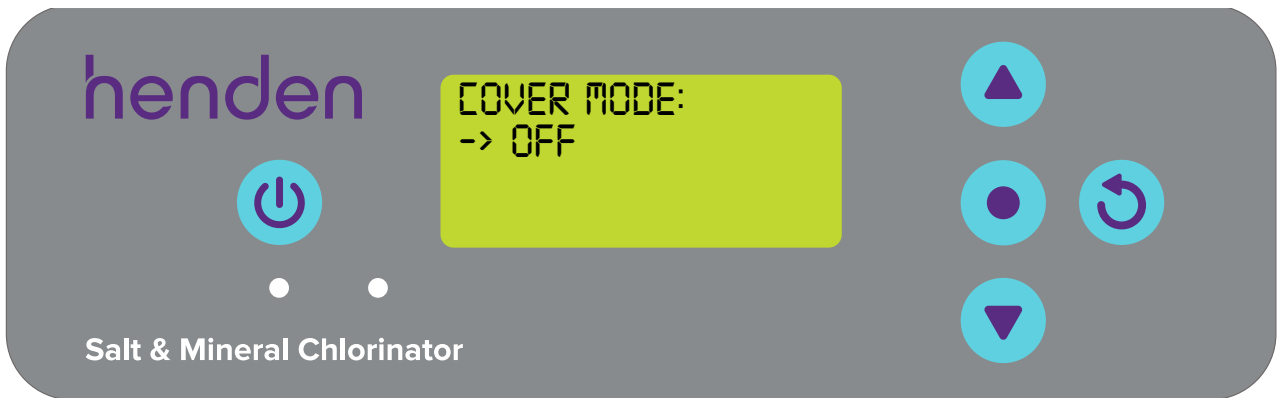

Figure 9.75
- **COVER MODE** can now be toggled ON/OFF where appropriate by using the  **menu up/down** buttons (ref Figure 9.75), then select by pressing the  **menu/setting select** button.